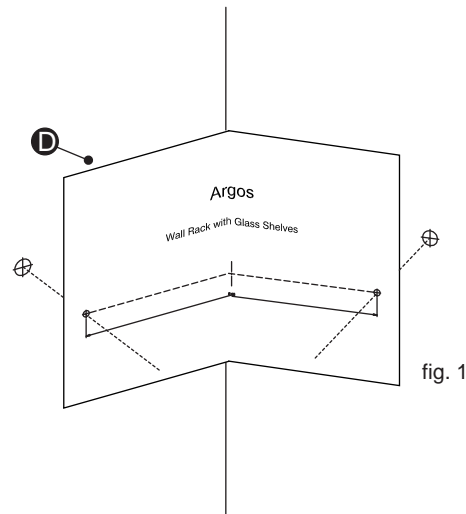

fig. 1
See fig. 1.
2. Use the same method as in fig 1 and 2 to fix the other Support Tube **A**.